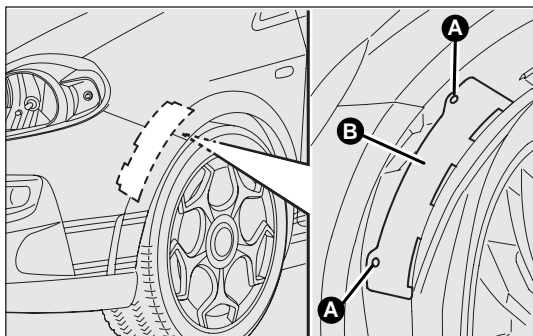

fig. 140
Front fig. 140
- unscrew the catch A-fig. 140, then lift off the access lid B;
- close the flap B-fig.140 then screw in the catch A.